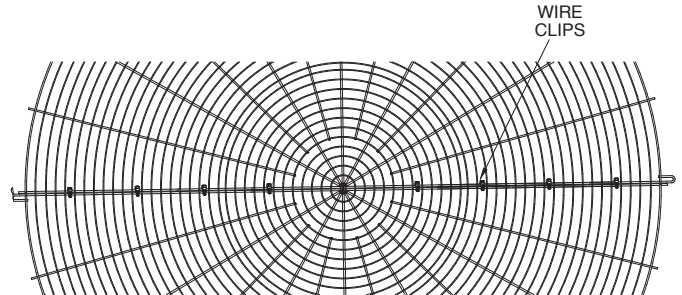
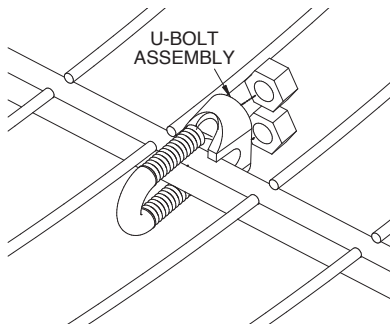

Figure 12 – Wire Clip Spacing
Figure 11 – Wire Clip Arrangement
1. Lay both halves of the fan screen on the ground. Join the two screen halves with wire clips (Figure 11). There should be 4 wire clips on each side of the fan screen for 12' (3,6 m) and 14' (4,2 m) wide units. Space the wire clips evenly across the radius of the fan screen as shown in Figure 12.